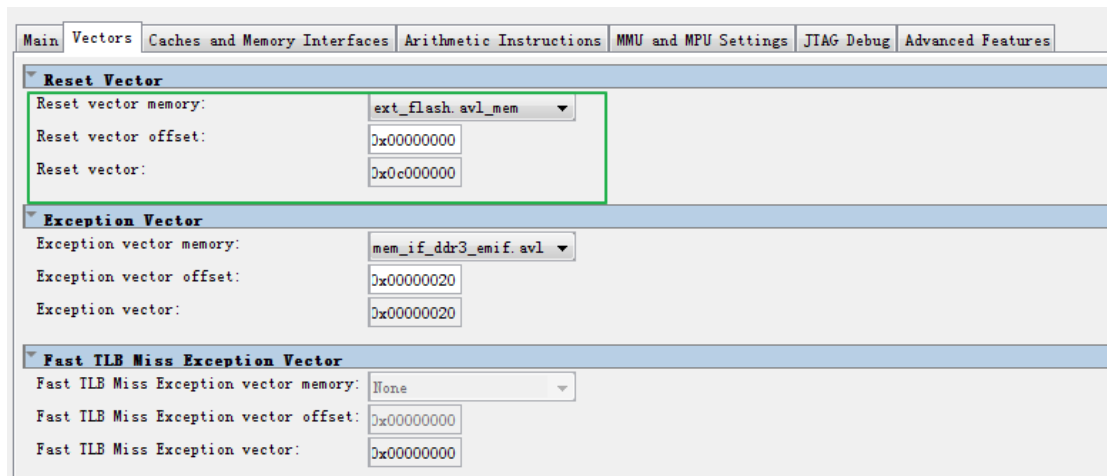

Figure 7-4 NiosII CPU Vectors Setting
- The avl_mem interface of the Altera QSPI Flash controller must be connected to the data master and instruction master interface of the Nios II CPU. Set the CPU reset vector and exception vector to the QSPI flash zone with offset 0 as shown in **Figure 7-4**.